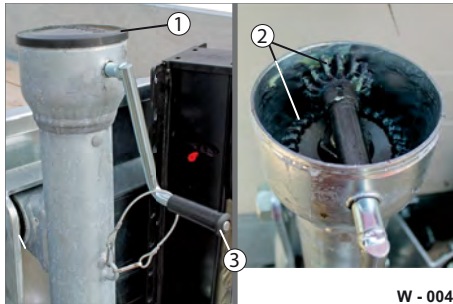

Fig. 4 Lubricating drawbar height adjustment
- ▶ Remove the cover (Fig. 4/1).
- ▶ Lubricate the gear wheels (Fig. 4/2) with grease.
- ▶ Use the crank (Fig. 4/3) to crank the height adjustment up and down - this distributes the grease.